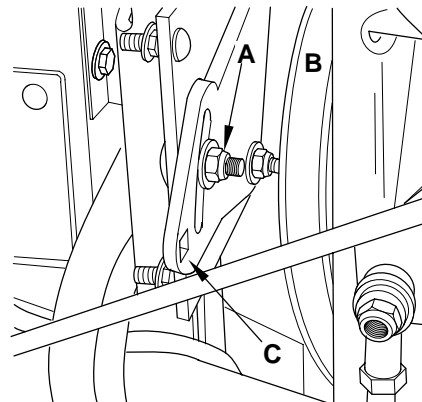

Figure 6-3 Fan Belt Adjustment
2. Loosen the two bolts (A and B, Figure 6-3). Using a 3/8 inch ratchet wrench installed in hole C, rotate the bracket until 1/2 inch deflection in the belt is observed using 10 pounds of pressure on the belt. See Engine Drive Belts, section 7.9 for checking method.